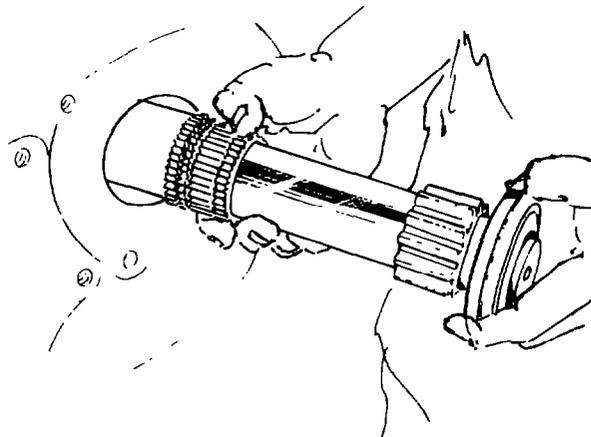

Fig. 203 — Installing Rear Countershafts
- m. Position the transmission horizontally, and start the rear countershafts through the rear bearing openings in the case (see fig. 203).